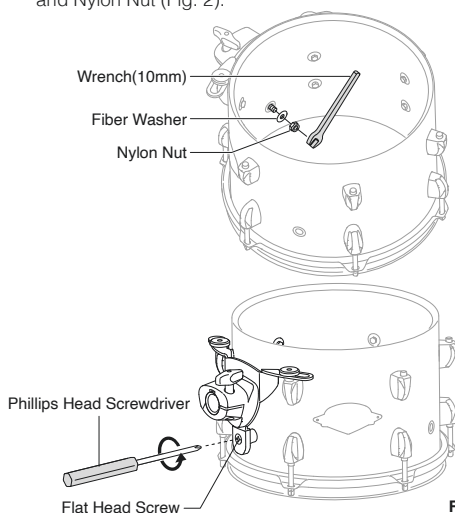

Fig.2
2. While holding the Nylon Nut inside the shell with a Wrench (10 mm), loosen the Flat Head Screw using a Phillips screwdriver and remove the Fiber Washer and Nylon Nut (Fig. 2).